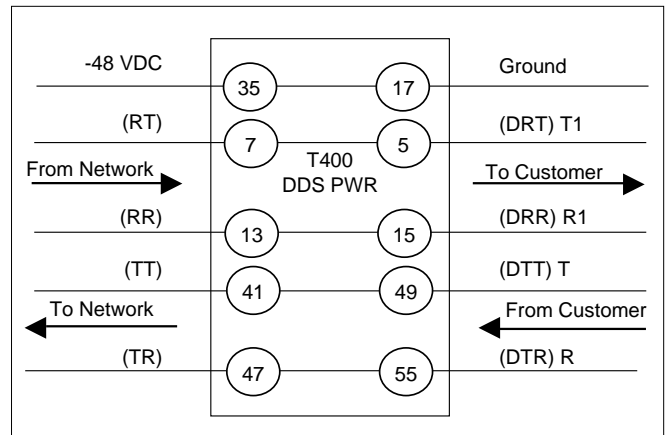

Figure 3. Connector Pin Assignments
3.1 Connector pin assignments for the T400 DDS PWR unit are illustrated in **Figure 3**. All connections to the unit are made via the backplane. No additional backplane wiring is necessary for normal operation.